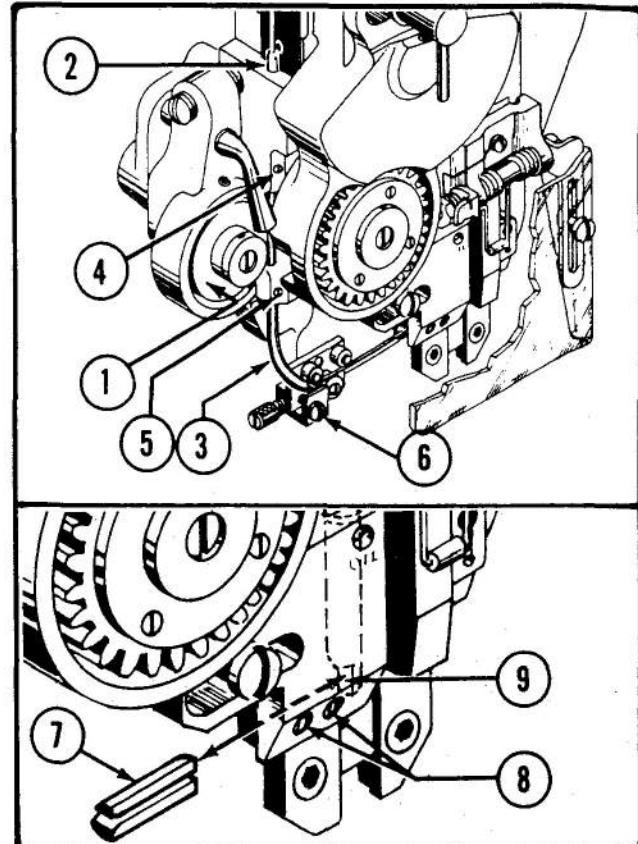

Figure 17—Inspecting Wire Feed Gears, Tubes, and Stationary Cutter
a. WIRE FEED GEARS (See Fig. 17)—The wire feed gears (Fig. 17 shows the left, or idler, gear (1) the right, or drive, gear being located behind the wire feed guard) should be checked for smooth and parallel wire gripping surface. Worn surfaces may result in wire slipping thereby not feeding properly; if surfaces are not parallel, wire may be rolled on one side causing wire curvature and resulting in imperfect stitches.
b. WIRE FEED TUBES (See Fig. 17) The upper and lower wire tubes, (2) and (3), should be checked for any obstructions in the tube passages which may interfere with free movement of wire. Slots may eventually appear in tube passages, due to normal wear, which will cause the wire to catch and bind, thereby resulting in improper feeding.
c. STATIONARY CUTTER (See Fig. 17)— The stationary cutter (7) should be periodically checked for any obstructions in the wire passage which may interfere with free movement of wire. Check that cutting end is sharp; dull cutter may be resharpened, but eventually must be replaced.